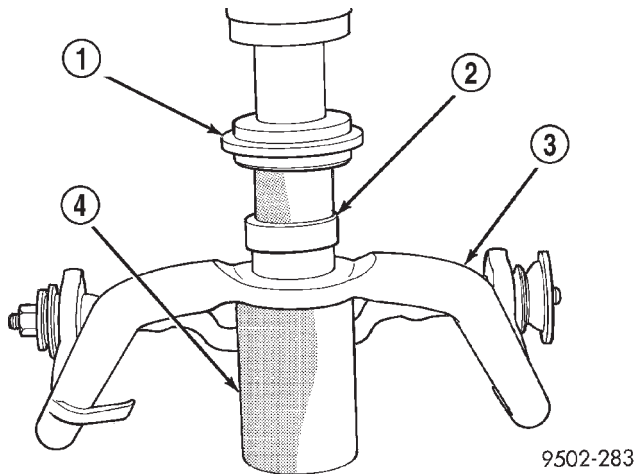

Fig. 55 Installing Ball Joint In Upper Control Arm
(1) By hand, position ball joint assembly into ball joint bore of control arm. Be sure ball joint assembly is not cocked in the bore of the control arm, this will cause binding of the ball joint assembly, when being pressed into lower control arm.
(2) Position assembly in an arbor press with Receiving Cup, Special Tool 6758 supporting lower control arm (Fig. 55). Then install Remover/Installer, Special Tool 6804 on the top of the ball joint assembly (Fig. 55).